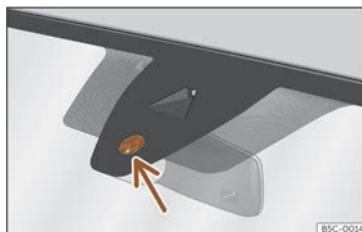

Fig. 100 Sensitive surface of the rain sensor.
The possible causes of anomalies and erroneous interpretations in the sensitive surface area >>> Fig. 100 of the rain sensor are, among others:
- **Dirt:** dry dust, wax, coating on glass (Lotus effect) or traces of detergent (car wash) may reduce the effectiveness of the rain sensor or make it react more slowly, later or not at all. Regularly clean the sensitive surface of the rain sensor >>> Fig. 100 (arrow) and check for possible damage to the wiper blades.